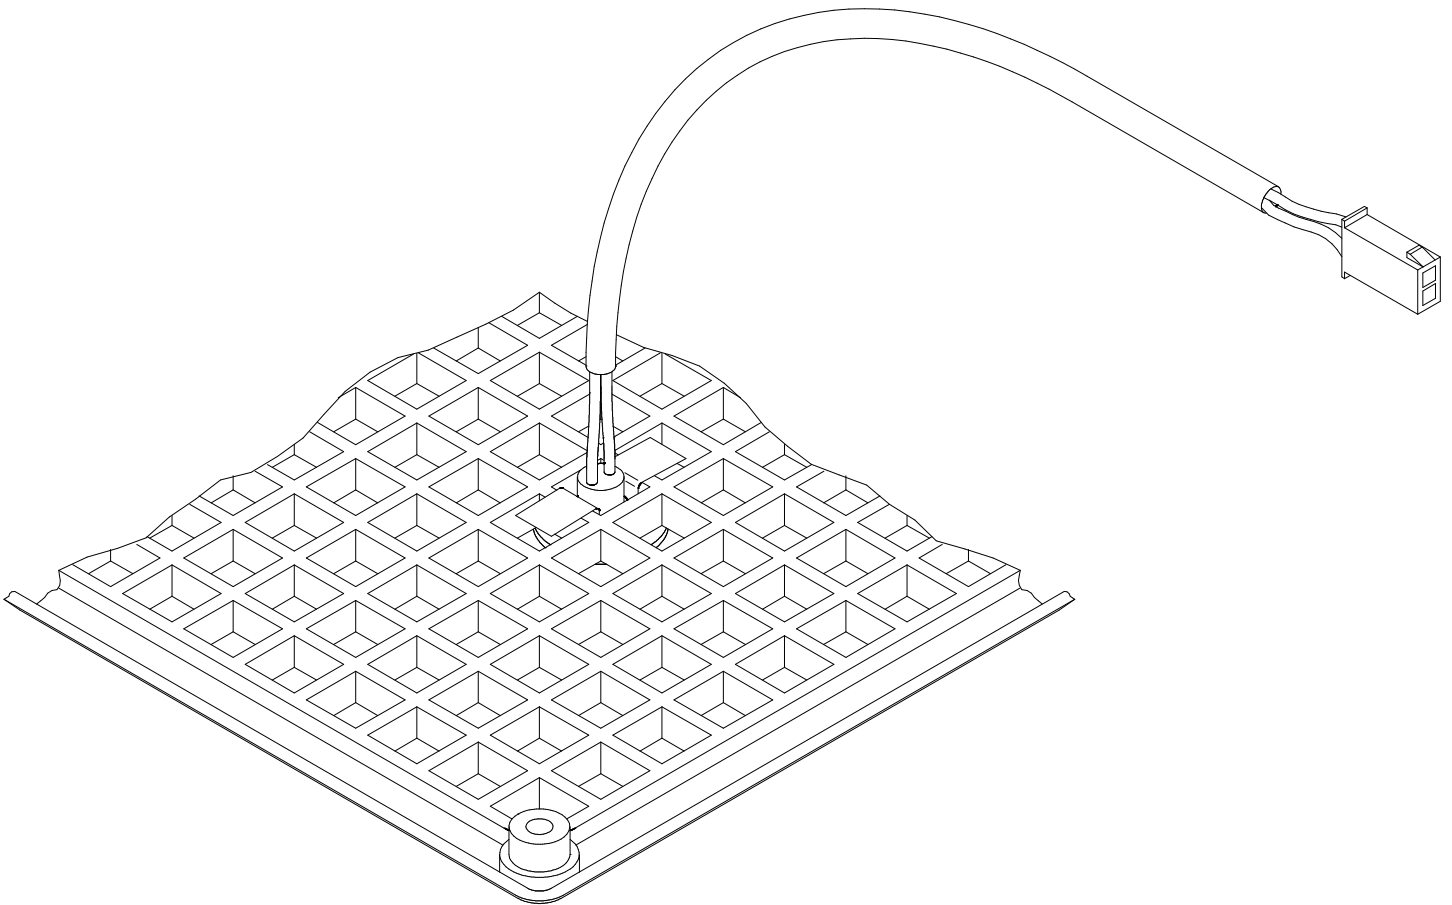

FIGURE 5
1. Remove the inside ceiling assembly shroud or grille. The ducted system grille is attached with four screws (one near each corner). Free delivery system shrouds are attached with two screws (one each end). Ducted system grille is shown in Figure 5.
2. The short wire harness assembly found with this kit must install onto the ceiling grille or shroud through the return air section. Ducted system grilles are totally in the return air stream. Choose any square opening which will allow the wire assembly to be untouched by sheet metal members when the grille is reinstalled. The plastic plug will route through the selected square opening. The remainder of the assembly will be pulled through the opening until the jack at the opposite end of the harness is through the opening and prevented from further travel by the stainless washer, which will not pass through the grille. Carefully bend over the aluminum tabs on either of the jack so as to capture the jack in the ceiling assembly (See Figure 5). Make a small opening in the filter material to allow passage of the wiring before attaching the filter. Connect the plastic plug to the mating receptacle on the end of the upper unit solar wire harness. Reinstall the ceiling grille, taking care that any excess harness wiring is prevented from contacting sharp edges or being pinched between two members. Use wire ties or electrical tape if necessary to insure wire security. Installation onto a free delivery system shroud is similar to the method for grille attachment except that the shroud return air louvers are longer and somewhat narrower. The jack will fit snugly between two louvers and slightly spread them apart. Orient the aluminum tabs so as to capture the jack before bending over the tabs. Again, insure that the jack or wiring will not interfere with any structures upon reassembly of the shroud.